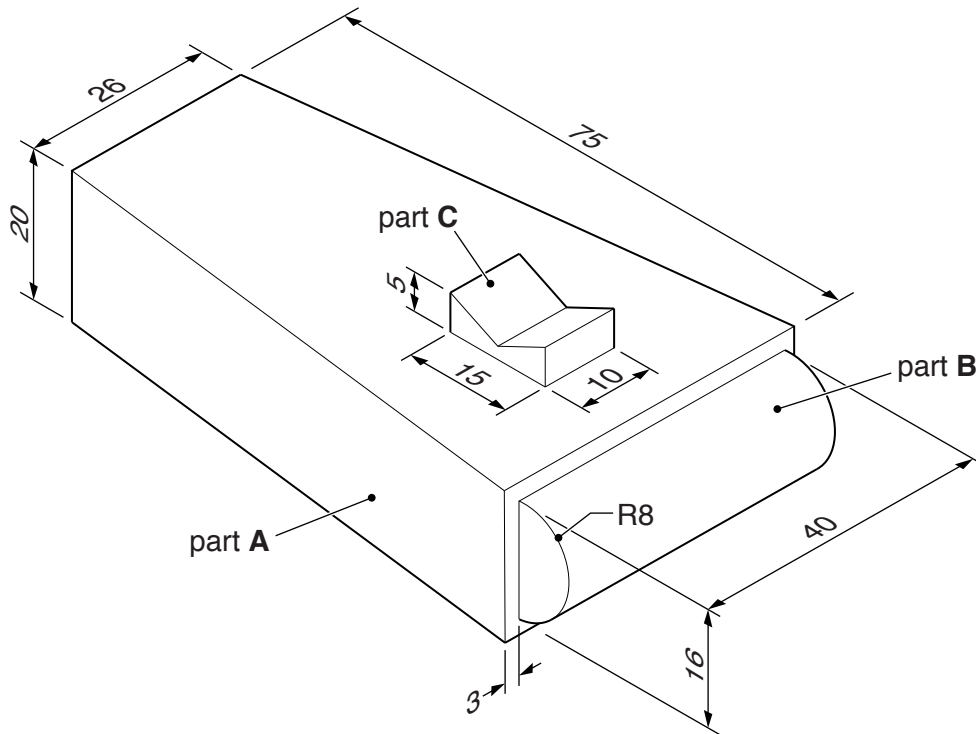

Fig. 2
- 2 Fig. 2 shows a card model of a torch which a student will show to people in order to find out what potential users of the torch think about the proposed design.